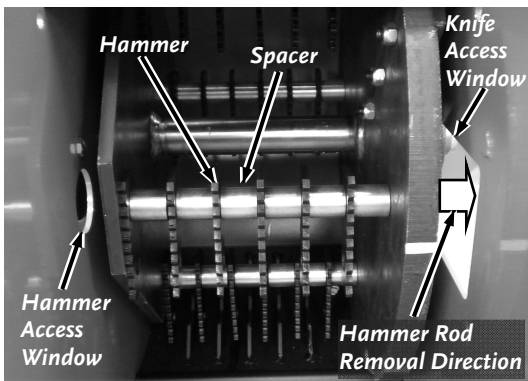

Figure 47
13. Slowly remove the Hammer Rod through the Knife Access Window, while at the same time removing the Hammers and Spacers from the Rod, setting them aside in the same order and orientation as you removed them (**Figure 47**).